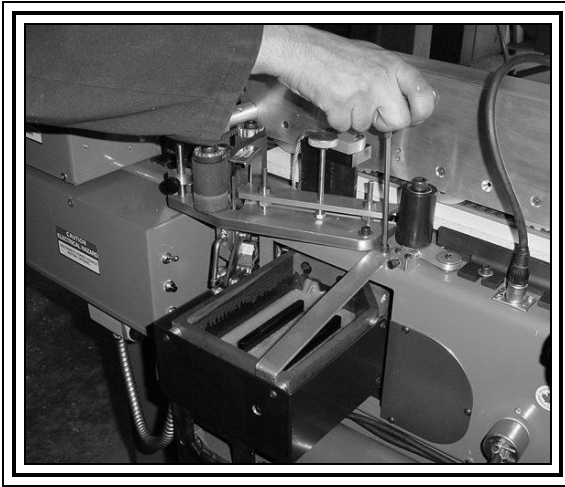

FIGURE 1
1. Remove wood crating. Machine base is bolted to pallet with 3/8" bolts from beneath 2" x 4" rails. Install 4 levelling pads and adjust so that machine sits firmly on all four (4) pads without rocking. (Theses are in the box packaged with the machine.)
2. Remove Glue Pot shipping support strap by unscrewing 3/16 allen head bolts from positions shown in (FIGURES 1 & 2). Be sure to replace bolts after strap has been removed.